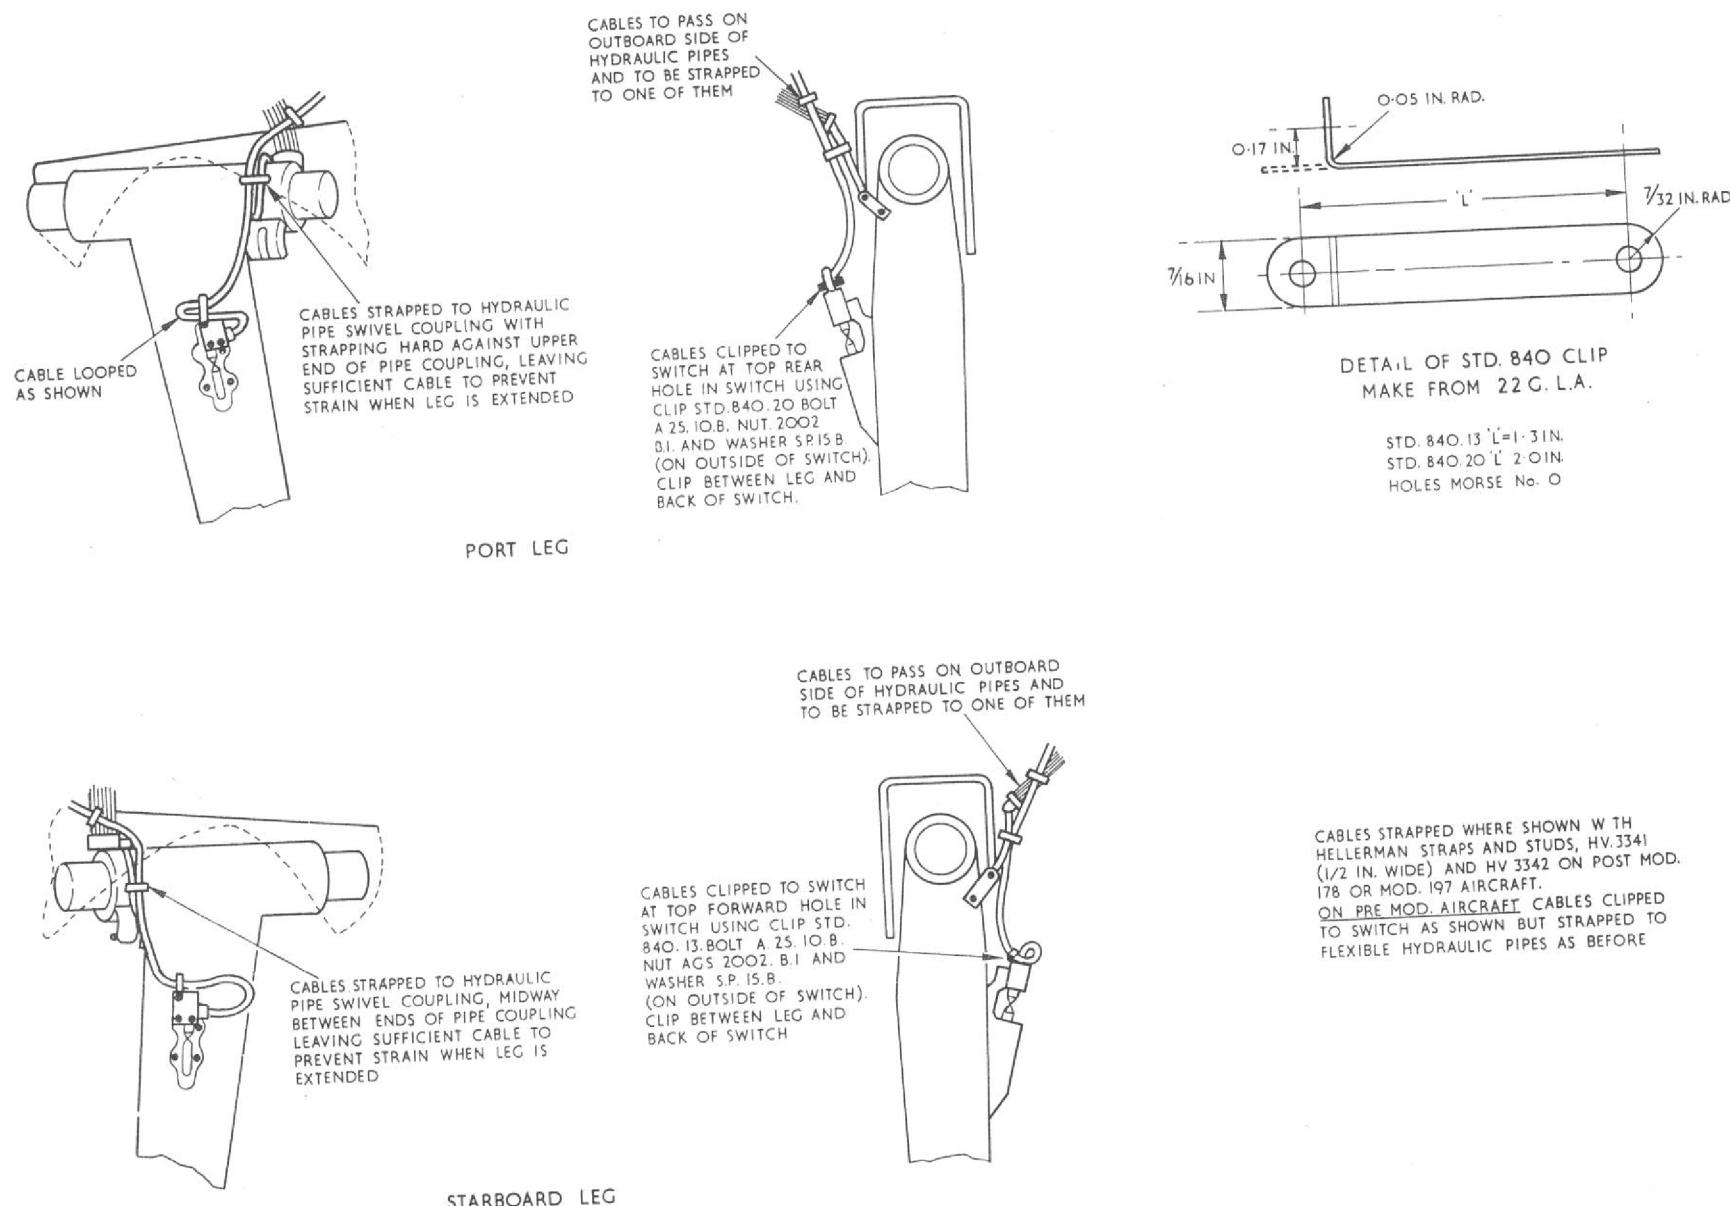

Fig. 7 Clipping of cables from undercarriage compression switch
- (1) The run and strapping of the cables is to be in accordance with fig.7.
- (2) Uninyvin 20 cable must not be used in this connection, because of its lack of flexibility. Unintersil 20 cable should be used.
- (3) Hellerman Twin Grip Ring Tags (Ref. 5X/7553) should be fitted to the cable terminations at the microswitches when the cable looms are changed.